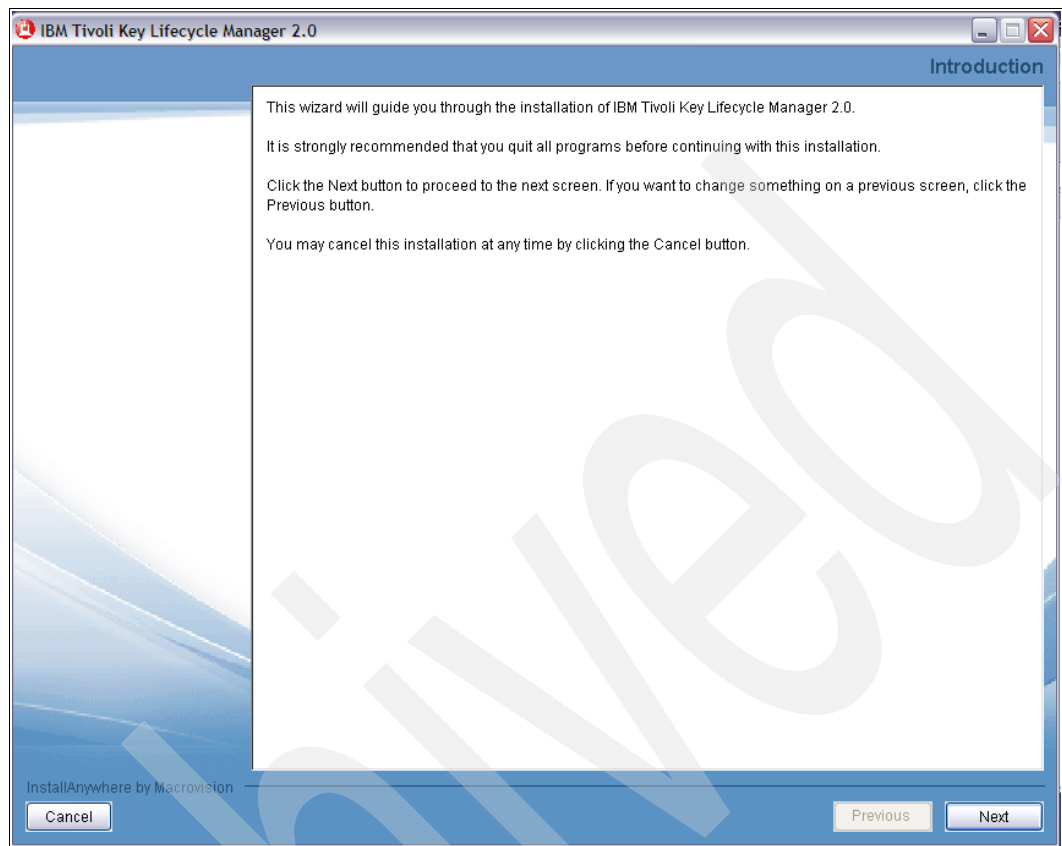

Figure 6-2 TKLM\_v2\_wizard
2. A wizard will guide you through the rest of TKLM v2 installation (Figure 6-2). Click **Next**.